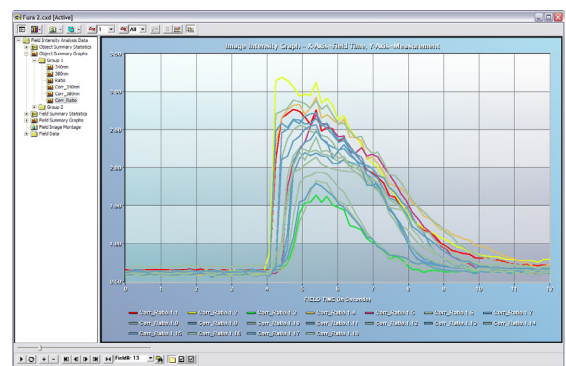

fig.4
13. Select **Corr_340nm**, **Corr_380nm** or **Corr_Ratio** under Group 1 in **Object Summary Graphs** (fig.4)
14. Choose **All** or **Average** ROI's from **Obj** drop-down menu (fig.4)